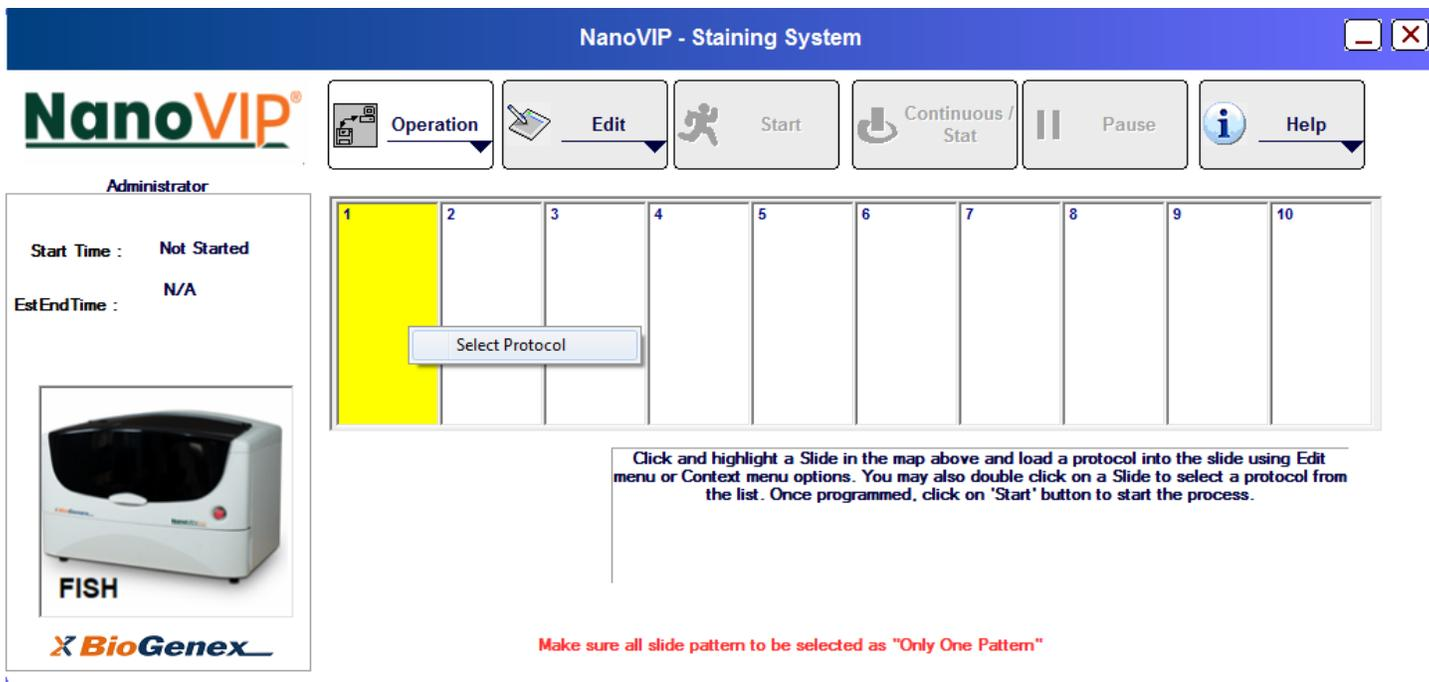

FIGURE 27 STAINING SYSTEM SELECT PROTOCOL
- Right Click on the slide position to open the <Select Protocol> window (Figure 27).